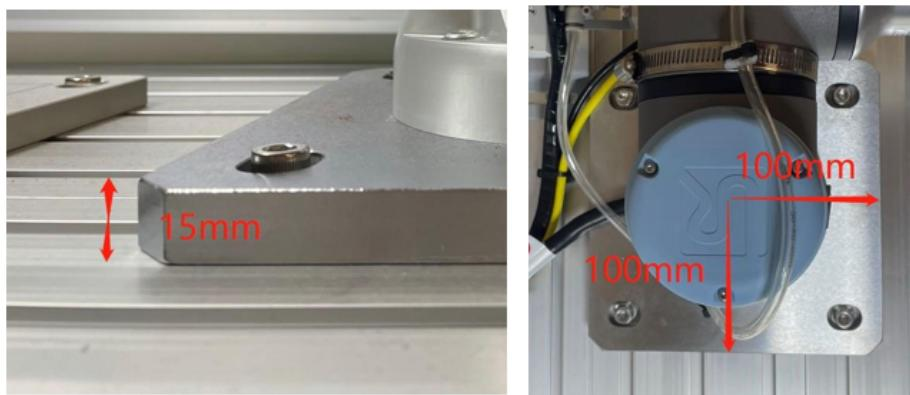

Figure 3.7: Approximate Dimensions of the relationship between the world frame and the base of the UR3 in mm.
- Figure 3.7 shows the offset between the world frame and the base of the UR3.